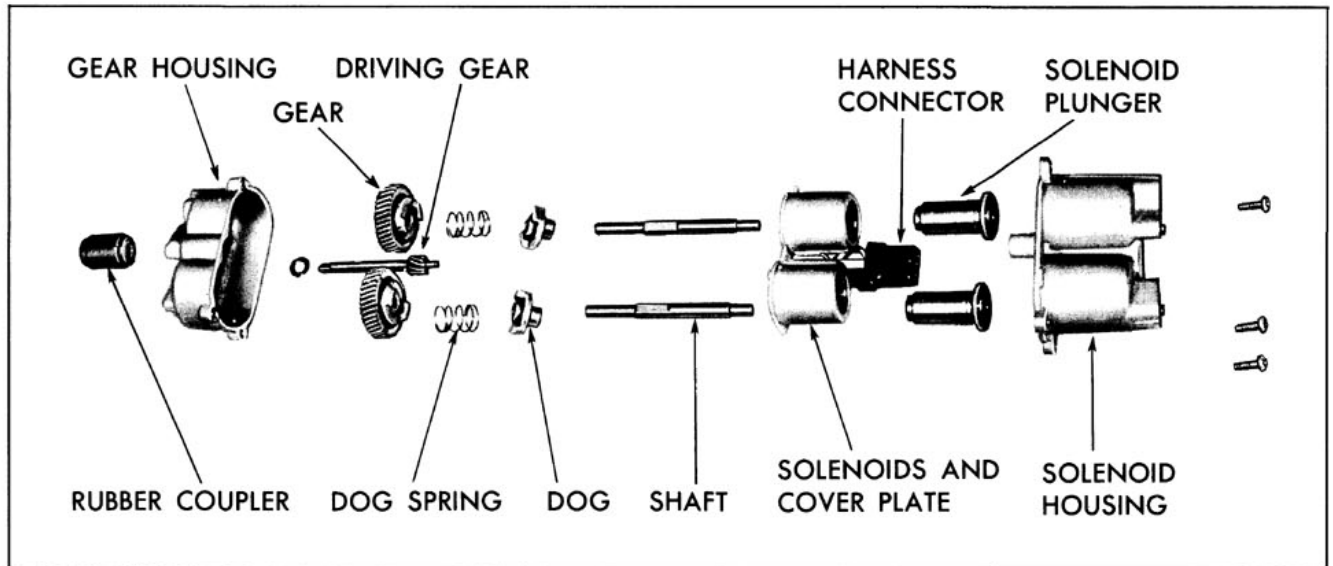

Fig. 16-107 Four-Way Seat Transmission
2. Remove screws securing gear and solenoid housings together; then, carefully separate housings and remove component parts of transmission assembly. (Fig. 16-107)